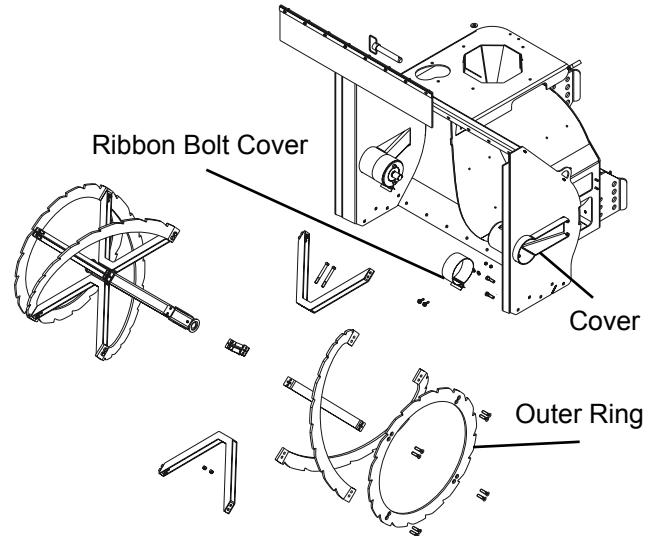

Figure 31
3. Remove one of the side covers located on the outside of the ribbon housing (Figure 31). This allows the motor to pull back.
6. Pull the drive motor back and remove the ribbon assembly (Figure 31).